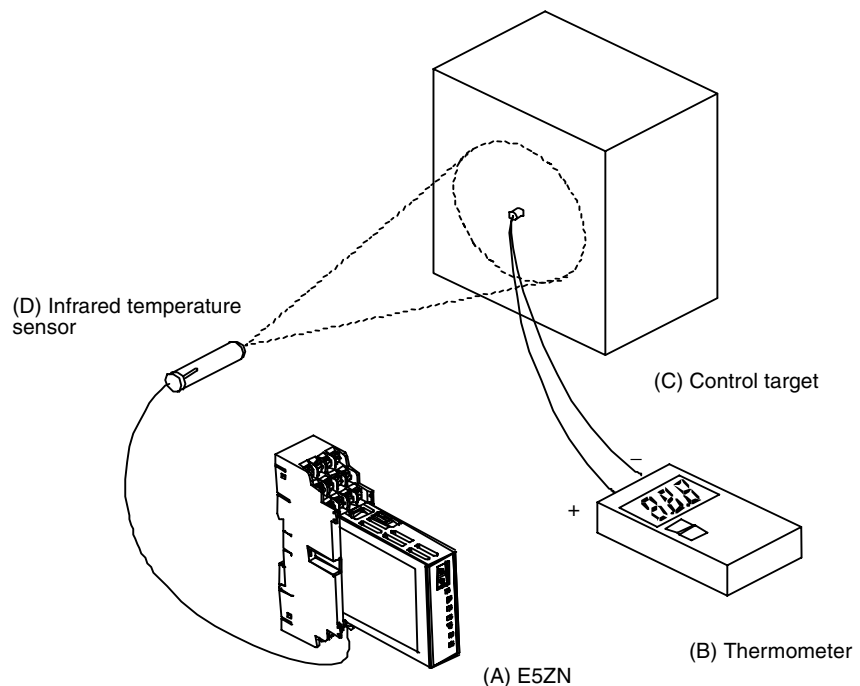

Figure 1 Configuration when Compensating a Infrared Temperature Sensor
2. Prepare a thermometer capable of measuring the temperature of the control target as shown in *Figure 1* so that one-point shift or two-point shift can be performed.
1. In the configuration shown in *Figure 1*, bring the SP to near the value at which the temperature of the control target is to be controlled. Let's assume that the control target temperature (C) and the control target temperature (B) are the same.
2. Check the control target temperature (B) and the Controller readout (A). Take the following value as the input shift value, and set the same numerical values for both the lower limit temperature input shift value and the upper limit temperature input shift value.